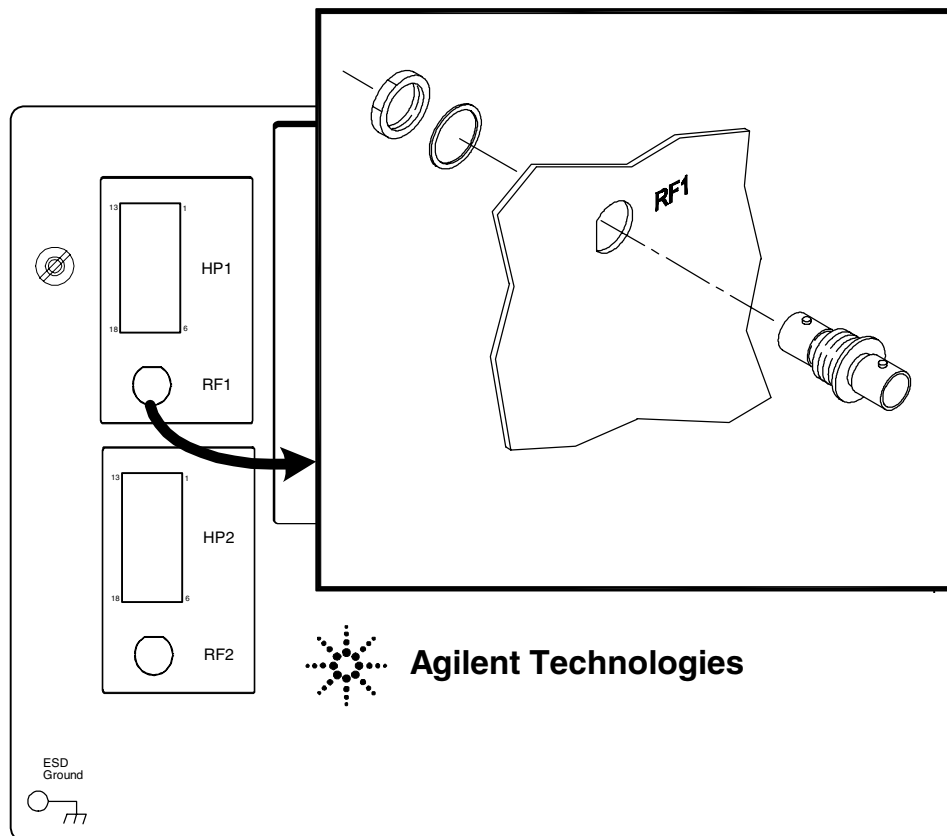

Figure 2-15. Installing a BNC Connector
3. Mount the floating BNC connector(s) on the Test System Interface as shown in Figure 2-15.